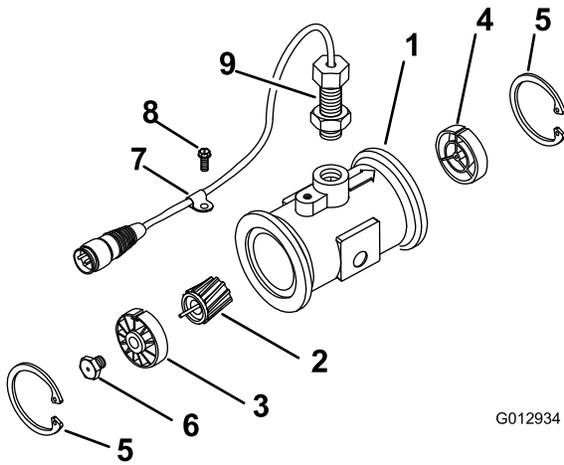

Figure 59
3. Remove the retainer ring on the upstream side (Figure 59).